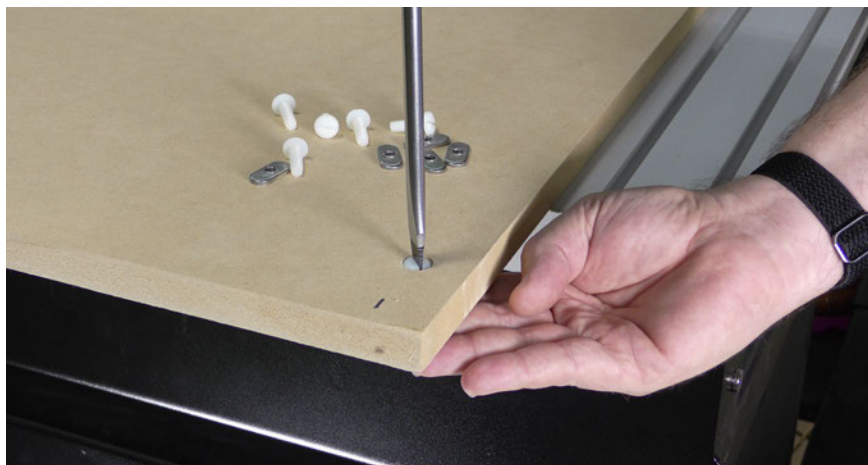

Fig 11c - Nylon Screw
- 11.4.** For machines with T-track beds, place one of the included 1/4-20 Nylon screws in each mounting hole and thread the steel oval nut onto the end of the screw. (Fig 11c)